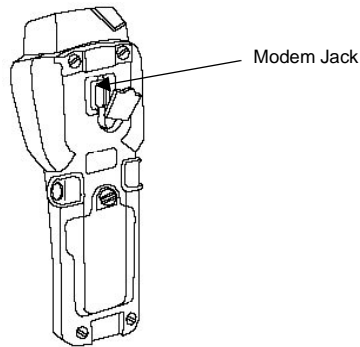
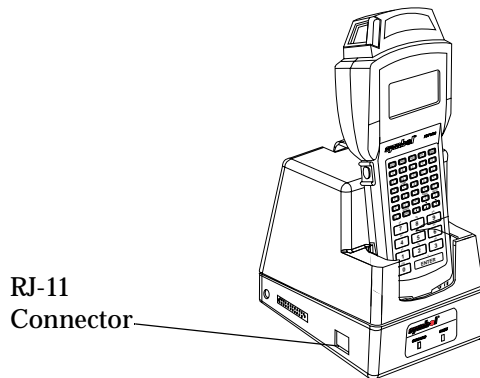

Figure 4-17. Modem Jack Location
Figure 4-19. Internal Modem Connector: CRD 3100
4. Attach one end of the telephone cable to the modem jack connection (Figure 4-17).
Some Series 3100 terminals and cradles use an optional internal modem that communicates at rates of up to 14,400 bps (with v.32 bis data compression). It can be connected directly to a telephone line through the RJ-11 port on the terminal (see Figure 4-17) or on the CRD 3100 (see Figure 4-19)..